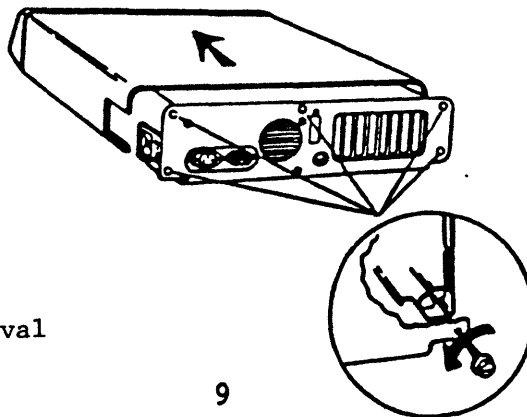
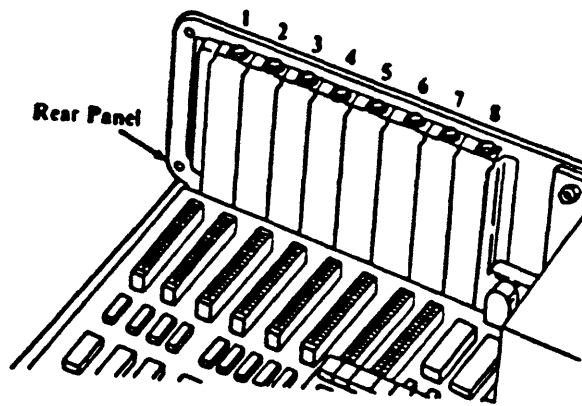

Figure 1.3
FIGURE 1-4. PC Expansion Slots
2. Disconnect any interface cabling which may obstruct cover removal. Remove the System Unit cover (Figure 1-3) to gain access to the interior (see Figure 1-4).